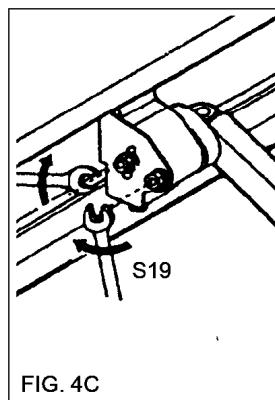

FIG. 4C
- \* tighten the 2 sidenuts securely (fig. 4C).